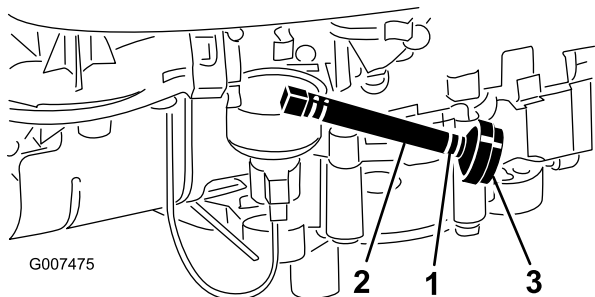

Figure 27
8. Squeeze the ends of the hose clamp together and slide it up the fuel line toward the fuel tank (Figure 27).
9. Pull the fuel line off the filter (Figure 27) and allow the gasoline to drain into a gas can or drain pan.
Note: The best time to replace the fuel filter (Figure 27) is when the fuel tank is empty. Never install a dirty filter if it is removed from the fuel line.
7. Squeeze the ends of the hose clamps together and slide them away from the filter (Figure 27).